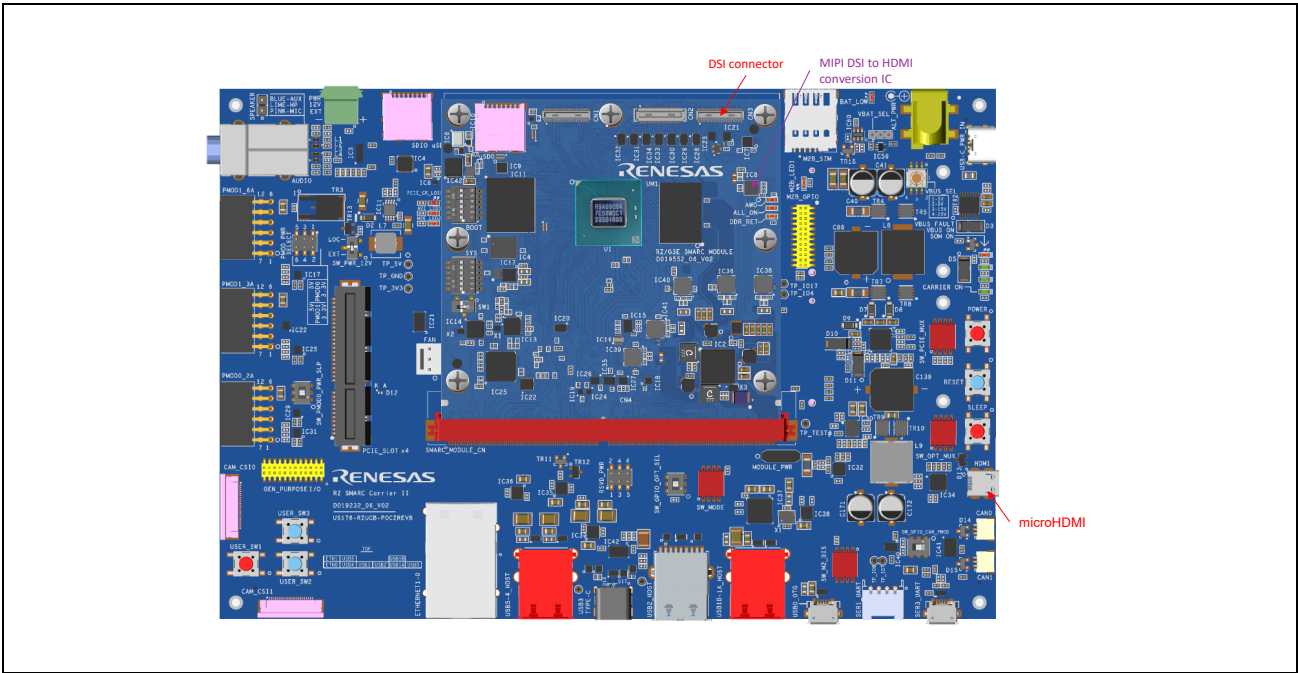

Figure 3.13 MIPI DSI to HDMI Conversion
- (1) the DSI connector (CN3) on the top side of the SMARC Module.
- (2) the micro HDMI connector on the RZ SMARC Carrier II through the SMARC Edge connector. Refer to **section 3.20.1, Display Interfaces** for pin assignment. (This is a default setting.)
Regarding (1), a 50-pin, 0.4-mm pitch, 1.5 to 4.00 mm height FPC-to-Board connector from Hirose (part number DF40C-50DP-0.4V(51)) is provided for connection to the RZ/G3E MIPI DSI IO. Regarding (2), the micro HDMI connector via the MIPI DSI to HDMI conversion IC from Analog Devices (part number ADV7535BCBZ-RL) on the G3E SMARC Module is provided for connection to the RZ/G3E MIPI DSI IO as shown in **Figure 3.13**.